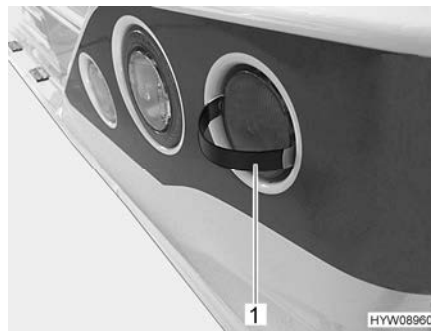

Fig. 216 Removing the cover
- Insert the notches of the supplied tool (Fig. 216,1) as shown next to the cover.